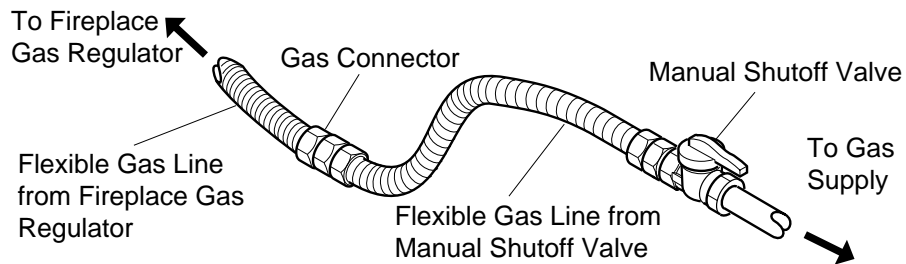

Figure 19 - Attaching Flexible Gas Lines Together
4. Apply pipe joint sealant lightly to male threads of gas connector attached to flexible gas line (see Figure 19). Connect flexible gas line to flexible gas line attached to gas regulator of fireplace (see Figure 19).
4. Check all joints from manual shutoff valve to thermostat gas valve (see Figure 19). Apply mixture of liquid soap and water to gas joints. Bubbles forming show a leak.